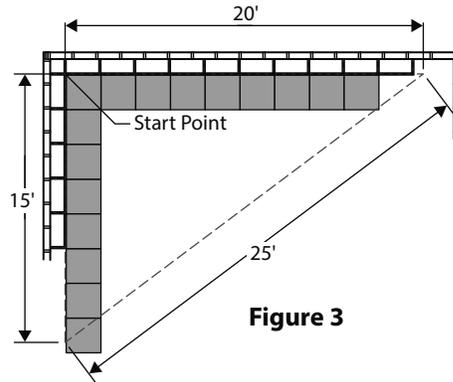

Figure 3
- 5) Establish square lines along the longest room dimension, stretch the chalk line through the start point and anchor at an equal distance from the wall or column at the other end of the room and snap a chalk line on the floor (Figure 3).
- Square the dry lines by using the 3-4-5 measuring technique as shown in (Figure 3). Measure out 15 on the chalk line from the start point and make a mark on the subfloor. Next, measure out 20 from the start point along another line at a right angle to the first chalk line, and strike an arc on the floor with a pencil. Then measure 25 from the 15 mark on the chalk line and make an arc with a pencil to intersect the first arc. The intersection of the arcs determines the point that the second chalk line must pass through. Anchor the chalk line through the arc intersection and the start point, and then snap a second line. The chalk lines are now square and establish the edges of the first row of full panels in each direction. Double check the dimensions for squareness and the layout against other features of the building to be sure the square lines are running consistently with the building. Make the 3-4-5 dimensions as long as possible to increase the accuracy of the square. Any multiple of 3-4-5 will work as well (such as 15-20-25 as shown in Figure 3).